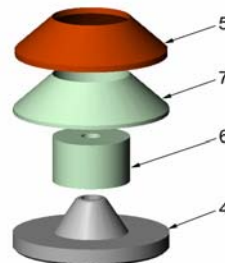

Figure 2
1.4 Install an inner cutter Pellet (item #6) onto each Backup; see Figure 2.
1.5 Stack the outer cutter Pellet (item #7) on each inner Pellet with the larger diameter downward; see Figure 2.
1.6 Place one of the Liners (item #5) onto each Pellet stack; see Figure 2.